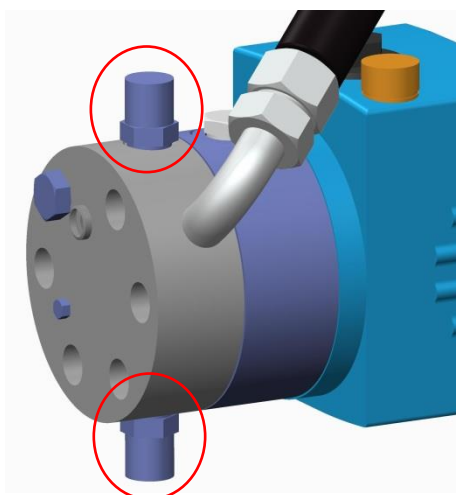

Figure 4-7. Tighten the inlet and outlet check valve housings slightly, circled in red, using an open ended wrench
1. Tighten the inlet and outlet check valve housings to 50 Nm on the metal-jet pump, circled in red in Figure 4-7., using an open ended wrench.